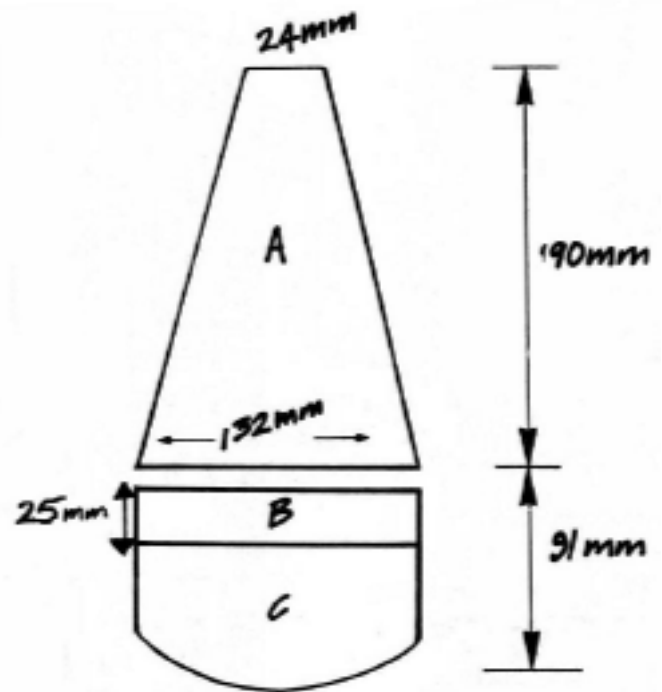

Fig 10.1
1. Draw the panels (accurately) on graph paper to the dimensions in Fig 10.1. (See Appendix for details on how to determine the size of panels for any lamp.) The arc across the bottom of panel C has a 135mm radius.